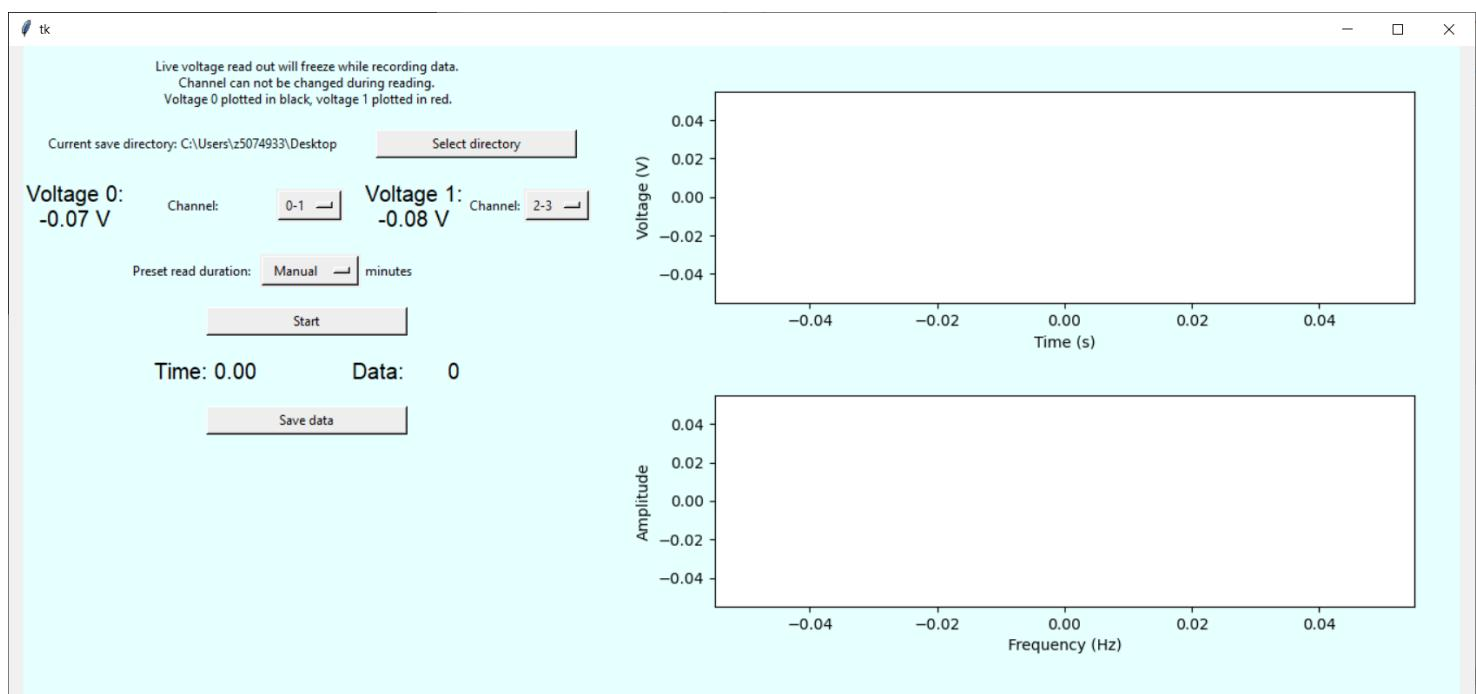

Figure 9. Software when first opened
4. Open PendulumApp.exe, it will open a black terminal, then shortly after the application as shown in Figure 9 bellow will appear.